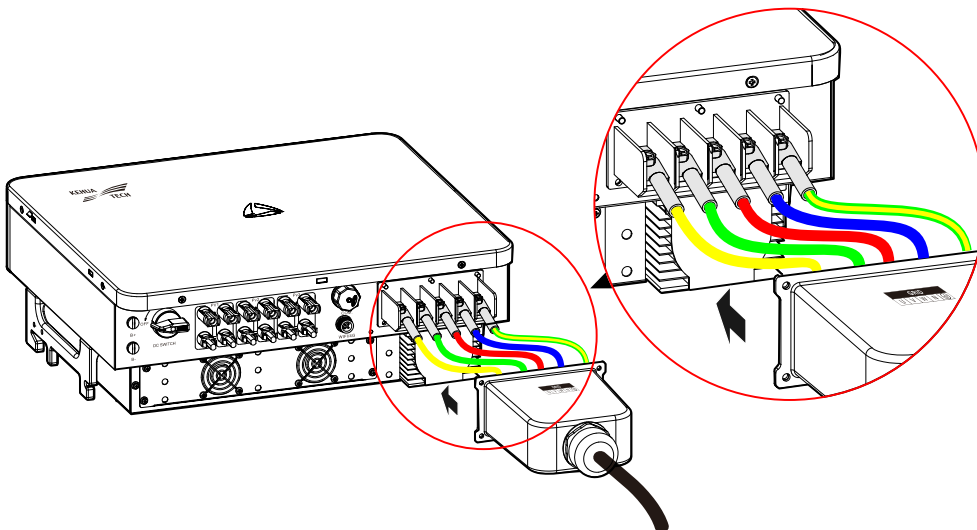

Figure3-24 Connect the AC output wire
- Step 2 Draw the AC output wire through the AC output waterproof cover, crimp them to the DT/OT terminals, and then fasten them to corresponding wiring terminal by screwdriver, as shown in Figure3-24.